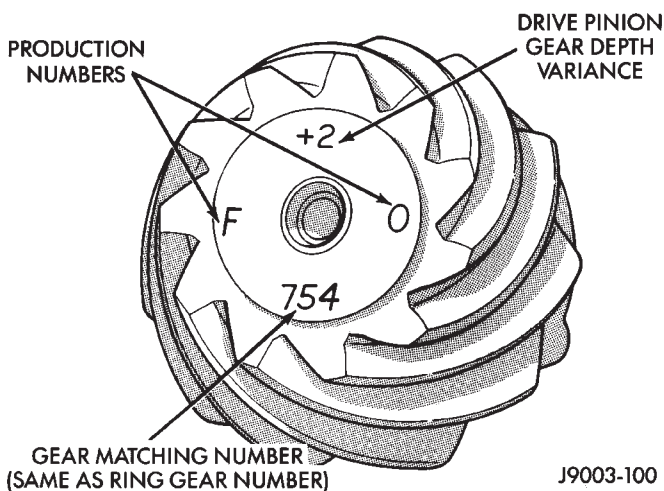

Fig. 57 Pinion Gear ID Numbers
Ring and pinion gears are supplied as matched sets only. The identifying numbers for the ring and pinion gear are etched into the face of each gear (Fig. 57). A plus (+) number, minus (-) number or zero (0) is etched into the face of the pinion gear. This number is the amount (in thousandths of an inch) the depth varies from the standard depth setting of a pinion etched with a (0). The standard setting from the center line of the ring gear to the back face of the pinion is 109.52 mm (4.312 in.). The standard depth provides the best teeth contact pattern. Refer to Backlash and Contact Pattern Analysis Paragraph in this section for additional information.
(9) Select a shim equal to the thickest dial indicator reading plus or minus the drive pinion gear depth variance number etched in the face of the pinion gear (Fig. 57).